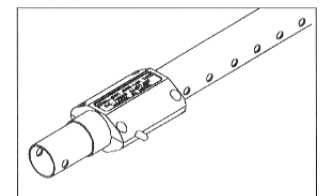

Figure 5
A. The Auto-Lok Tube allows you to make small adjustments to the overall length of the stretcher tube section quickly and easily. Simply push back on tubes to extend. Press in on the two buttons and pull back on the tubes to shorten. (See figure 5)